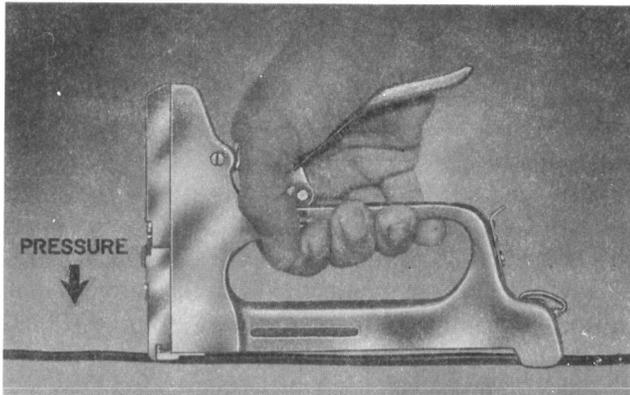

Fig. 2—Holding Position For Model TMN Stapler
2.02 The TMN stapler (Fig. 2) contains a spring-driven hammer which is actuated by depressing the operating handle. After each operation a staple is automatically fed into driving position by the pusher assembly.
the hammer end of the stapler during the driving operation. This minimizes any tendency of the tool to recoil or bounce (Fig. 2).